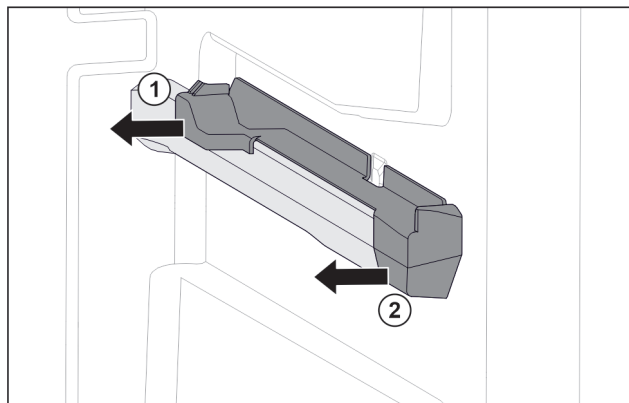

Fig. 130 Attachment on the right moulded rib
- Pull off attachment at the back sideways. Fig. 130 (1)
- Pull off attachment at the front sideways. Fig. 130 (2)